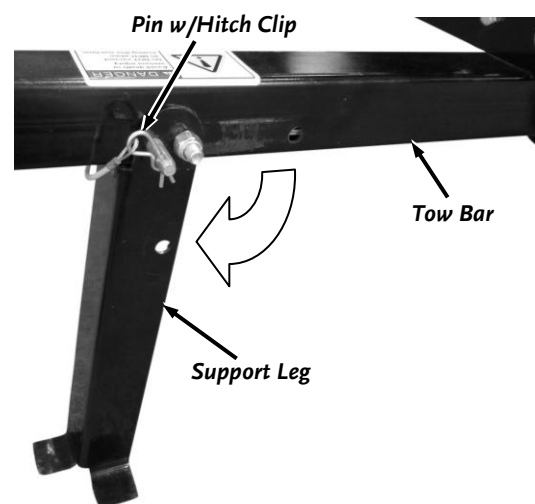

Figure 11
2. Rotate the Support Leg to the down (operating) position, align the holes in the Tow Bar and Leg, reinstall the Pin and secure with the Hitch Clip (**Figure 11**).